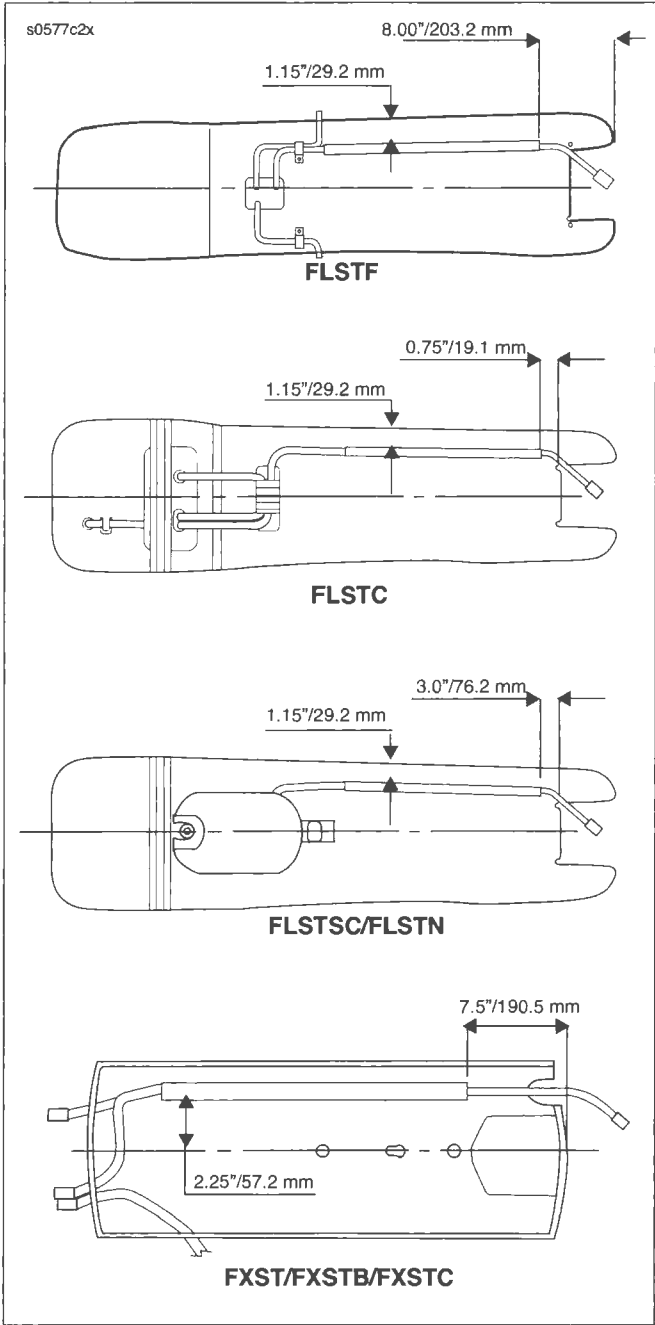

Figure 2-149. Conduit Placement
7. See Figure 2-149. Lightly position the conduit in place.